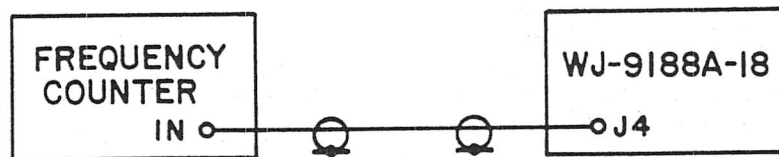

Figure 4-1. Sweep Rate Performance, Test Setup
The test setup diagrams used with the following performance test procedures are shown in Figures 4-1 through 4-4. Refer to the particular test procedure for the corresponding test setup diagram.
1. Connect the frequency counter to the signal monitor as shown in Figure 4-1. Energize all equipment.